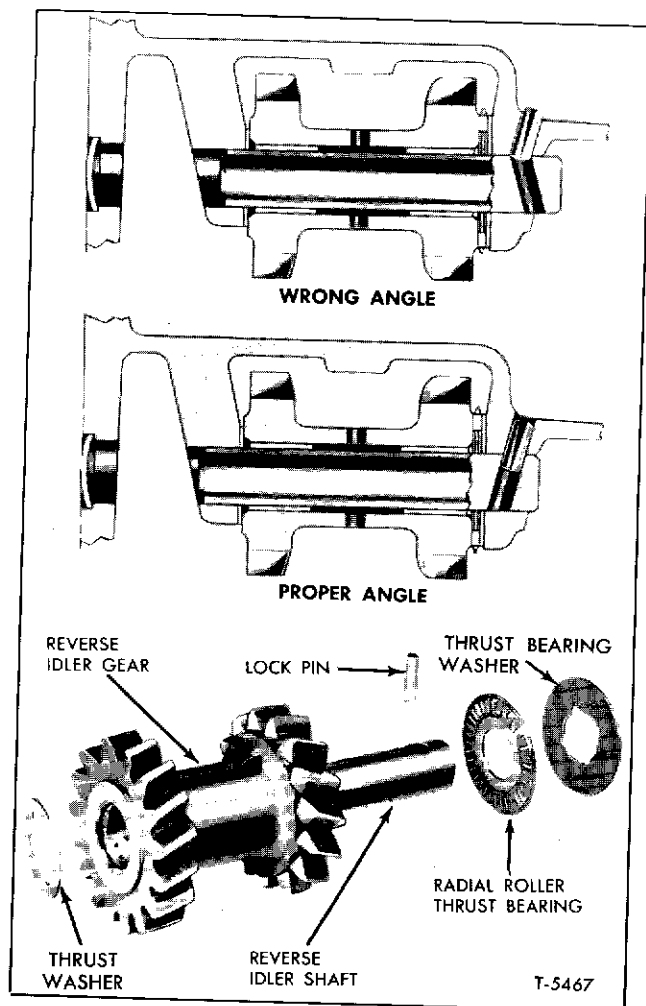

Figure 12—Reverse Idler Gear Shaft and Lock Pin
1. Hold reverse idler gear (20), front and rear thrust washers (17), and thrust bearing (18) between bosses in transmission case. Gear teeth rounded ends must be toward rear of case. Referring to figure 12, note angle of pin hole in idler shaft (16) when installed. With shaft aligned accordingly, and with lock pin hole toward rear of
2. Move idler gear shaft into place with hole aligned with pin hole in case. Recheck angles of hole in case and shaft to see if they are aligned as shown in figure 12.
3. Use a new idler shaft lock pin (19), coat pin with Permatex and drive it in approximately 1/16" beyond flush with case; peen hole in case slightly. Lock pin must be a tight fit in transmission case to prevent lubricant leakage.